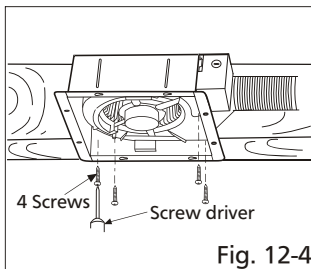
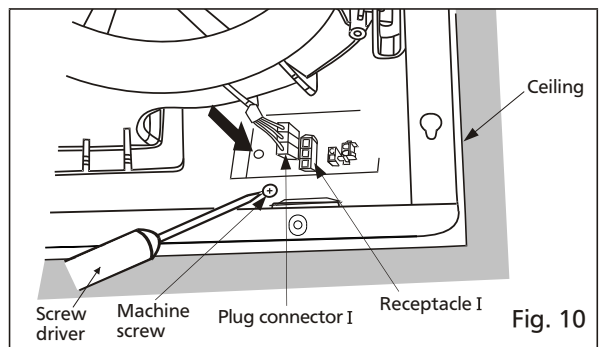

Fig. 12-4
Fig. 10
- Secure the fan body to adaptor by using machine screw and plug connector to receptacle. (Fig.10)
- Secure the adaptor to fan body by using machine screw. (Fig. 10)
- Secure the blower. (Fig. 12-4) and plug connector to receptacle. (Fig. 10)